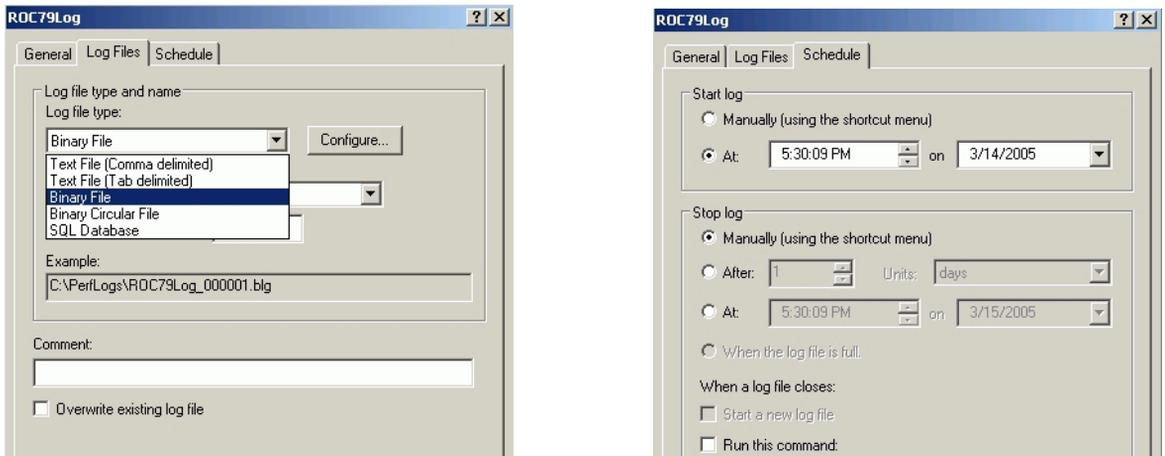

Figure 82. File Type and Scheduling Options
7. As an option you may change the file format and schedule, Figure 82.